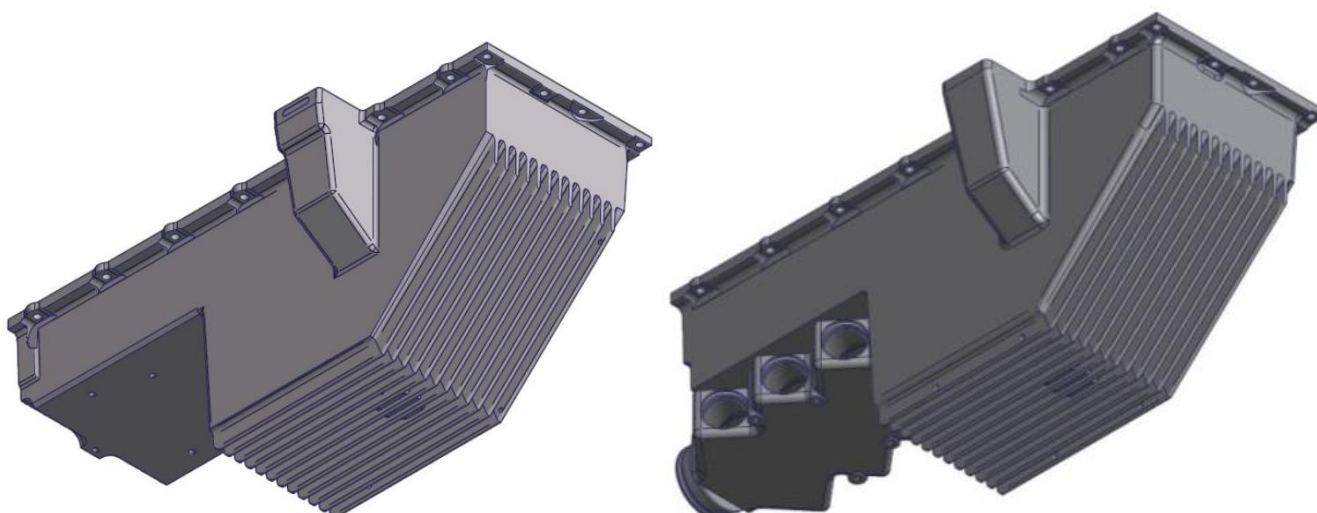

Figure 100 – 3300 Engine Sumps
- 3300 engines: two types of sumps, shown in Figure 100, are acceptable for use. Note the intake tubes leaving the manifold at an angle.
- Current engines use an induction cast into the sump as shown in **Figure 100 (right)**.